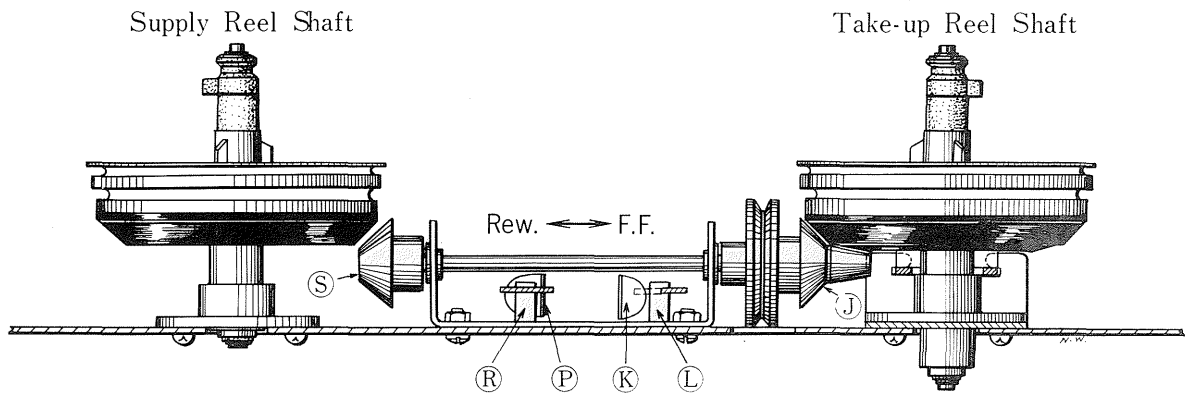

Fig. 5
Lever (G) actuates Brake Lever (H) and releases the brakes from right and left reel plates. Pulley (J) is driven by a round type drive belt, beginning to rotate simultaneously with the motor. Refer to the side view illustration of Fig. 5 for explanation of lever operations, located near by Reel Spindle.
As shown in Fig. 4, when Rewind Key (M) is depressed, Levers (N) and (O) move in the direction of the arrow. In Fig. 5, Bar Spring (P) pushes Pin (R) and Pulley Shaft moves toward Supply Reel Shaft. Pulley (S) firmly contacts the rubber wheel of the Supply Reel Shaft, which begins to rotate clockwise, permitting Rewind operation.